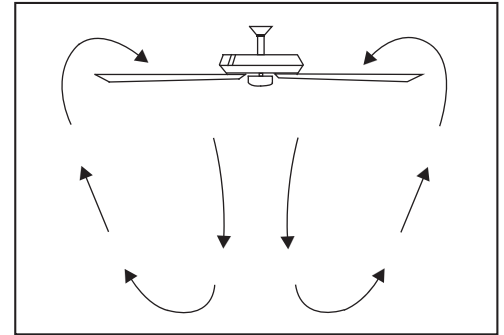

Figure 18
**Warm weather** - (Counter-Clockwise direction) A downward air flow creates a cooling effect.(Fig. 18) This allows you to set your air conditioner on a higher setting without affecting your comfort.